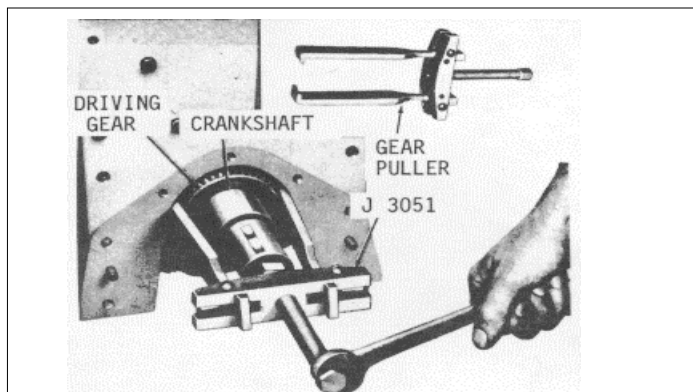

Fig. 8
- (1) Support the front end of the engine and remove the crankshaft front cover (SM6-5-13.0).
- (2) Remove the oil slinger.
- (3) If required use puller J 3051 (Fig. 8) to pull the pump driving gear from the front end of the crankshaft as follows:
- (4) Remove the Woodruff key from the crankshaft.